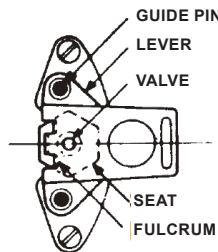

Figure 5. Correctly Aligned Guide Pin and Guide Pin Hole
8. Check the alignment of guide pins. Hold the lever and valve against the valve seat with the valve contacting its seat and the two fulcrum points resting on the face of the seat. When the lever is held in this position, the guide pins should be central in the guide pin holes, as in Figure 5. When correctly aligned, the lever will move sideways the same distance to the right as to the left. Should the guide pins be out of line for any reason at all, they should be straightened so that they will be central in the guide pin holes as shown in Figure 5. Finally, the ball valve should be in alignment with the orifice to allow complete shut-off.